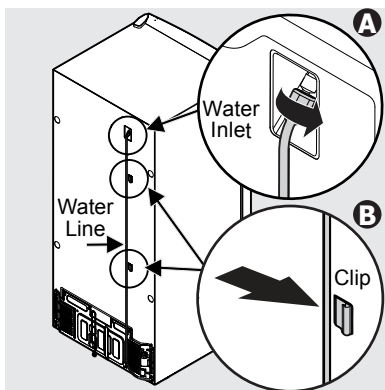

Figure 14
11. Install the water line by screwing the nut on the end of the tube onto the water inlet. Tighten the nut until snug, and then tighten an additional $\frac{1}{4}$ turn with needle nose pliers. See Figure 14.